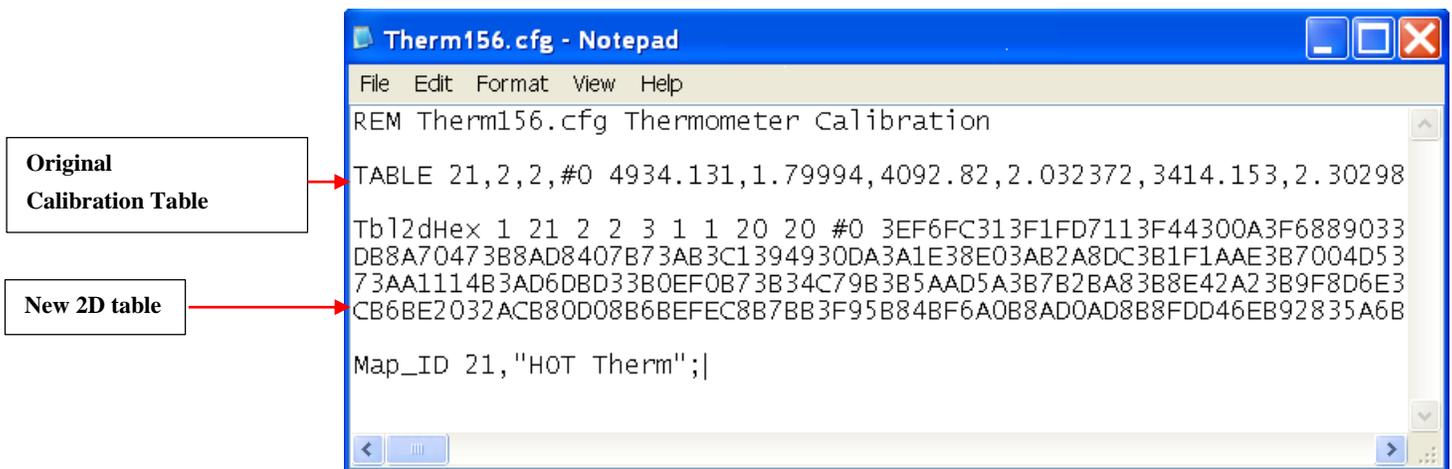

Figure 11: Updated TTO Hot thermometer Configuration file with new MR Calibrated 2D table
2. Copy the 2D table from the configuration file (Do not copy the command: TBLMODE 21,2) and paste in the TTO ThermXXX.cfg file (\\QdPpms\ThermalTransport\Calibration) under the original thermometer calibration table. (Figure 11)